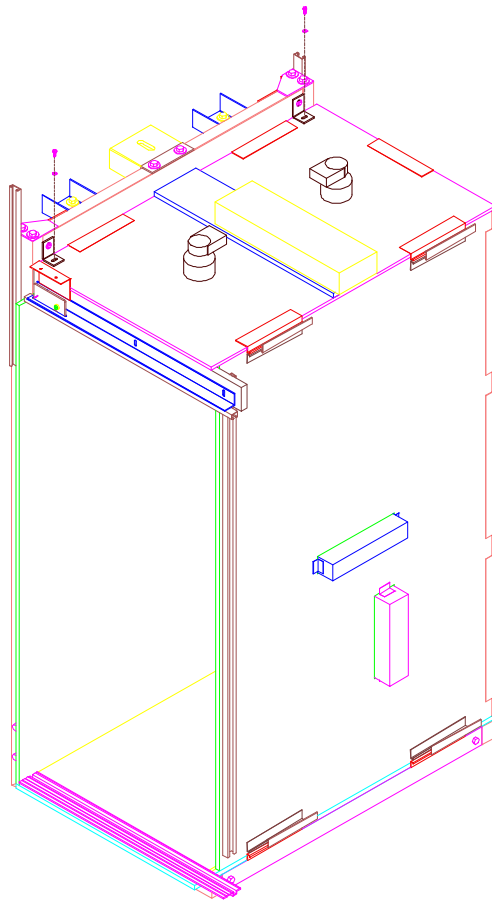

Figure 14
5. Fasten the ceiling to the crosshead with the mounting angles. There are holes tapped in the crosshead. (Fig 14)